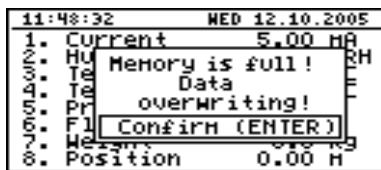

Fig. 7.16. Warning in “cyclic” recording mode
- “**cyclic**” - after filling all the available memory with recorded measurement results, the measurement results recorded next will be written from the starting address in the memory, overwriting previously recorded data. During the first overwriting operation a warning message (Fig. 7.16) will be displayed; this message must be confirmed with the [ENTER] key. This warning shall be repeated when the unit is switched on. Instead of “Time left” parameter in the “Device information” menu the display will show the “Data overwriting” message. If the collected measurement results will be downloaded to a PC before memory is full, the warning message will not be displayed.